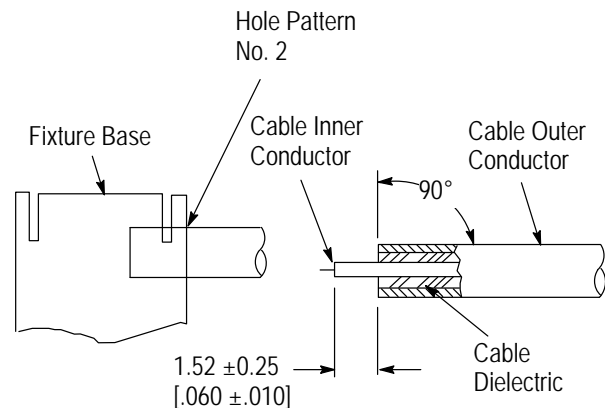

Figure 3
5. Complete trimming of cable inner conductor to dimension shown in Figure 3.